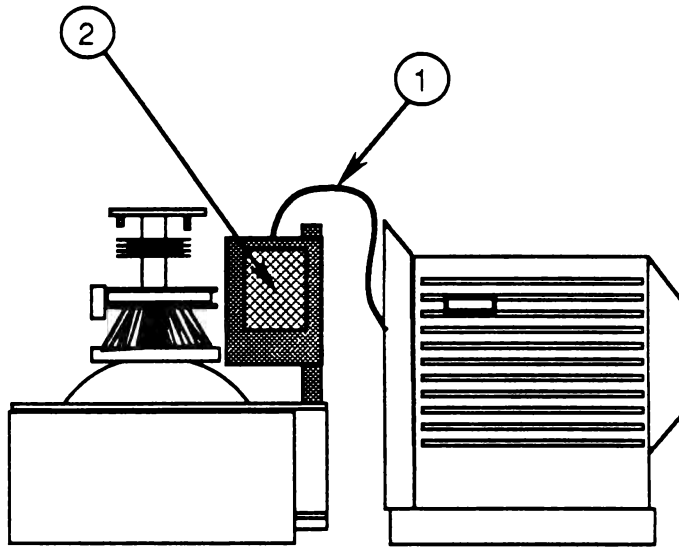

FIGURE 4
7. Follow the power switch wire (Figure 4, #1) from the switch (inside the rear cover) to its connector on the power supply board. Disconnect the power switch connector from CN11 on the power supply board (Figure 4, #2).
2. Connect the power switch cable (from inside the rear cover) to CN11 on the power supply board (Figure 4, #2).